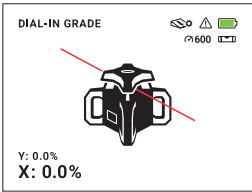

Fig.14
- To create an automatic grade / slope, press the **dial-in grade button** on the remote control. The laser will automatically select the X-axis (Fig. 14). When dial-in grade mode is active, the following icon will be displayed on the LCD screen on the laser level and remote control: